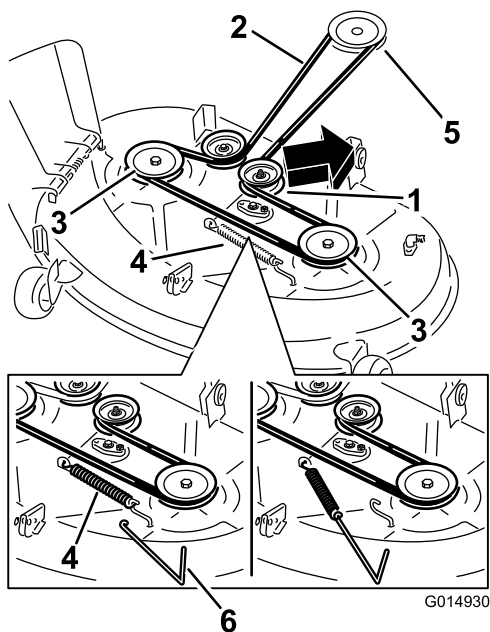
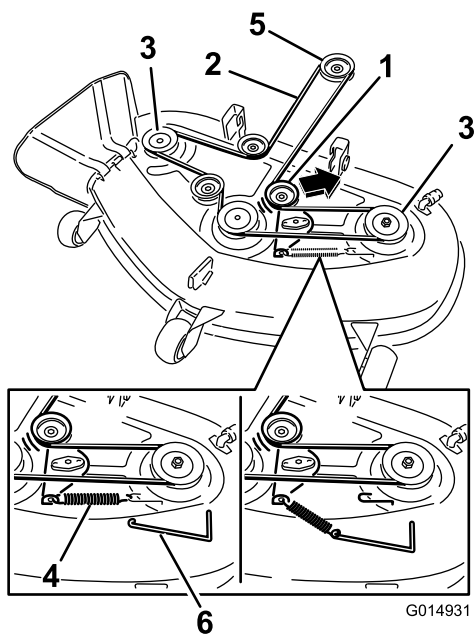

Figure 56
Figure 57
5. Using a spring-removal tool, (Toro Part No. 92-5771), remove the idler spring from the deck hook to remove tension on the idler pulley, and roll the belt off the pulleys (Figure 56 and Figure 57).
6. Route the new belt around the engine pulley and mower pulleys (Figure 57).
7. Using a spring-removal tool, install the idler spring over the deck hook, and place tension on the idler pulley and mower belt (Figure 56 and Figure 57).